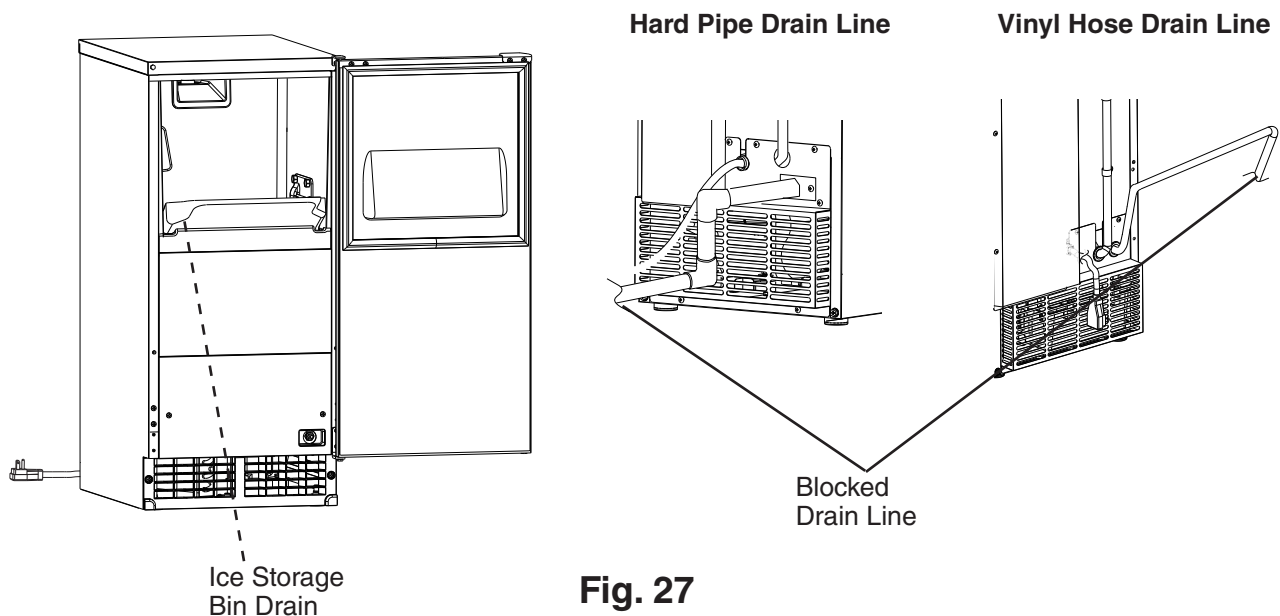

Fig. 27
- 13) Check the drain pump back-up safety switch: Pour another 24 to 30 oz. (710 to 890 ml) of water into the icemaker's ice storage bin, then completely restrict/block the appliance hard pipe drain line or the appliance vinyl tubing drain line while the drain pump is operating. See Fig. 27. Pour more water into the icemaker's ice storage bin until the icemaker turns off. The drain pump will continue to operate. Check for leaks.